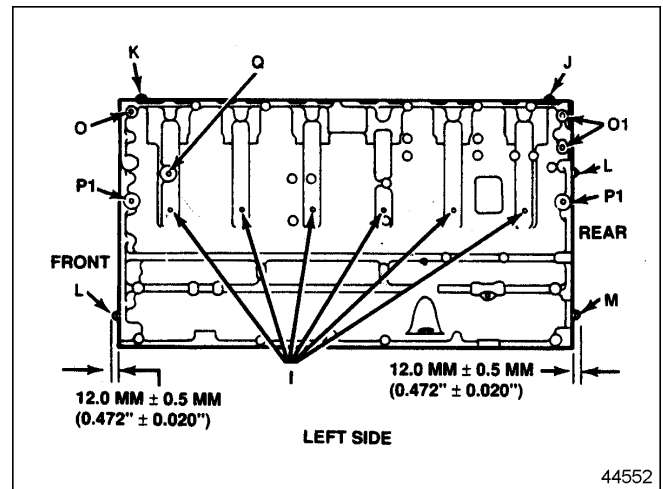

Figure 5 Location of Cup and Pipe Plugs on Left Side
- O1. 8922327 1/4"-18 Pipe Plug (2 places). [Required only for pressure testing of cylinder block. In service, these plugs are replaced by the oil pressure sensor (OPS) and the oil temperature sensor (OTS).] See Figure 5.